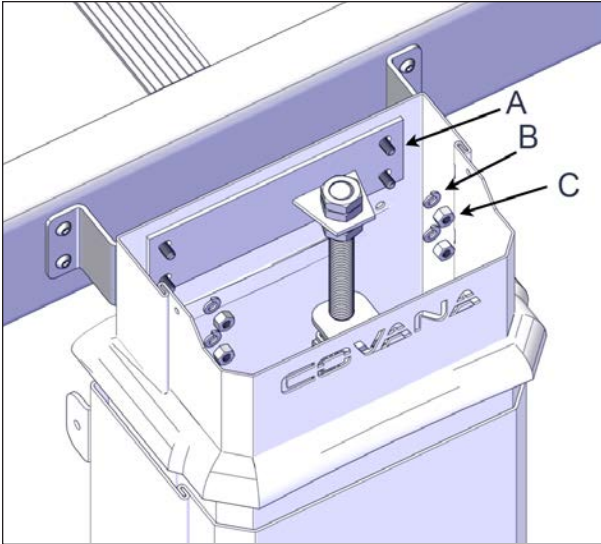

FIGURE 111: JACK ADAPTER SCREW REMOVAL
3. Remove the 1/4-20 x 3/4" carriage bolts (4) of the jack adapter, from each post using a 7/16" (11 mm) socket wrench, see Figure 111.